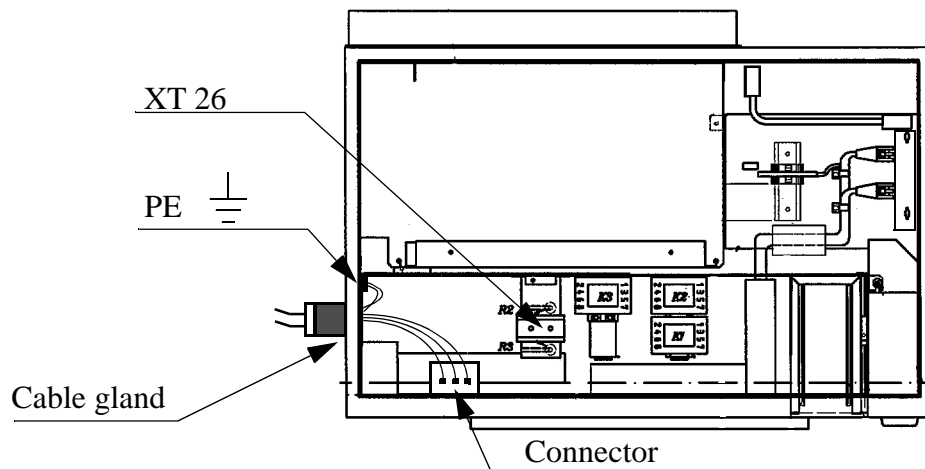

Figure 21 Mains connection inside the cabinet.
Remove the left cover plate under the top lid. Pull the mains cable (outer diam. 10.20 mm) through the gland (see Figure 21), located on the left cabinet wall.
1. Release the connector from the knob by pressing in the red button located on the upper side of the connector (see Figure 21).